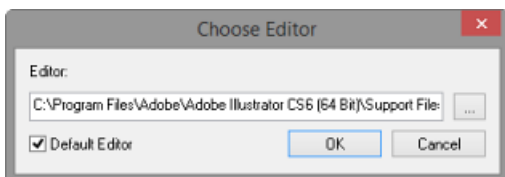

FIG. 41 Choose Editor dialog with Default Editor option selected
1. In the Preferences dialog (Editor Selection tab), double-click the Image Editor application that you want to set as the new default program. This opens the *Choose Editor* dialog (FIG. 41).